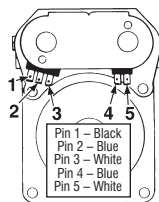

Figure 12 - Measuring gas valve resistance.
3. Use an ohmmeter to determine if a gas valve coil has malfunctioned. Remove harness plugs. Measure resistance across the terminals (see figure 12). Readings should match those shown in the following chart; if not, replace coils.